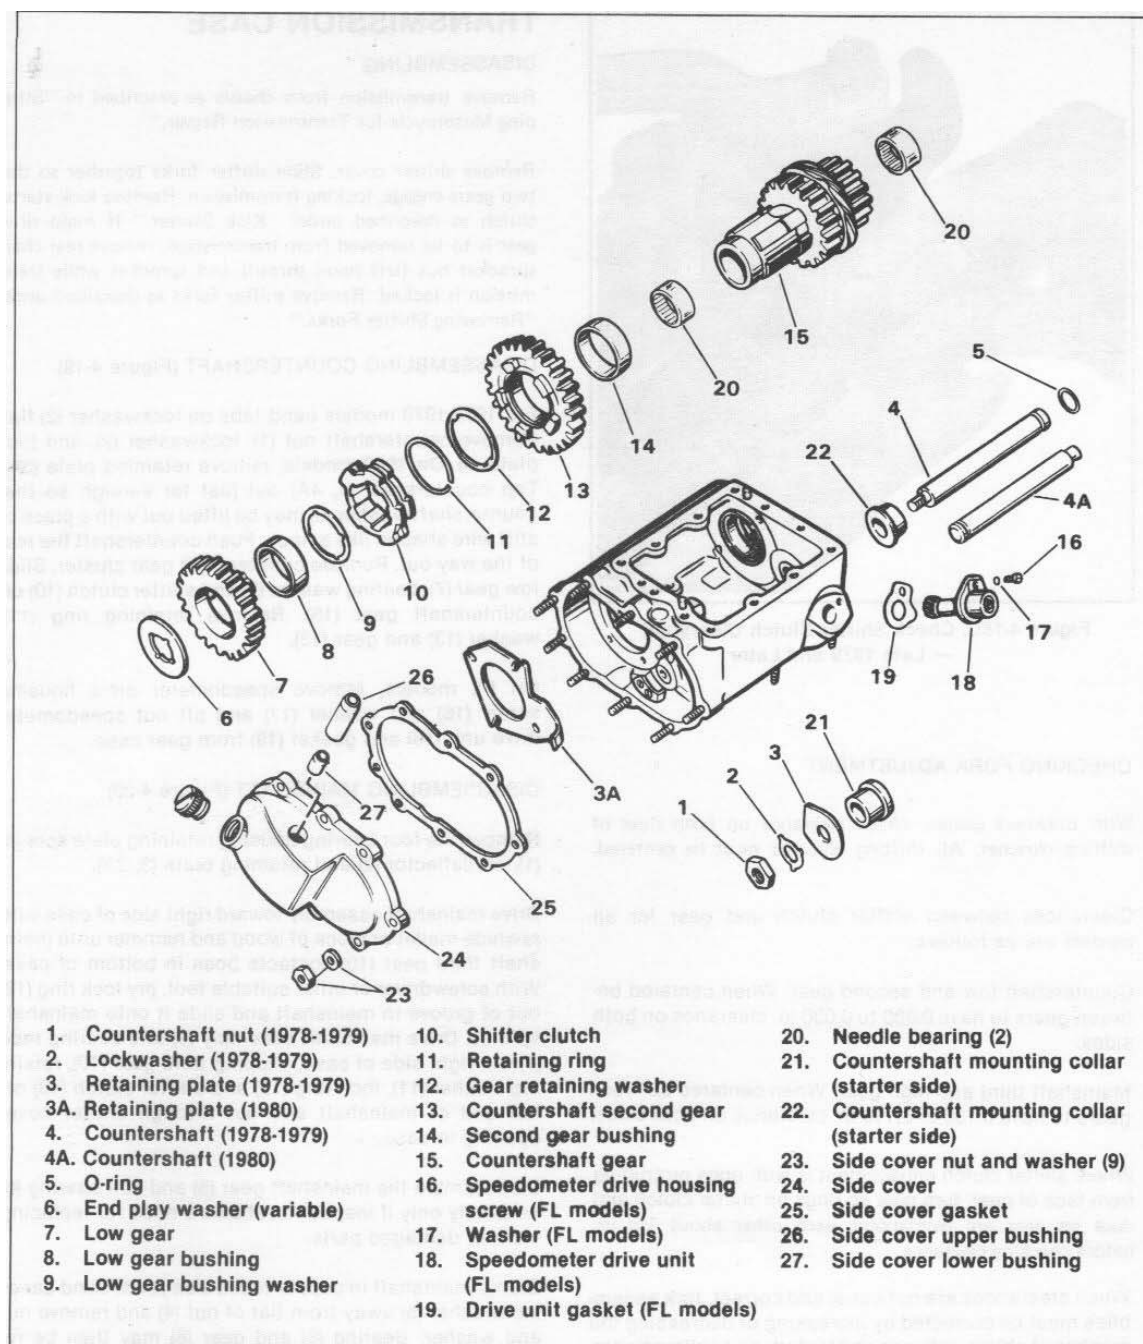
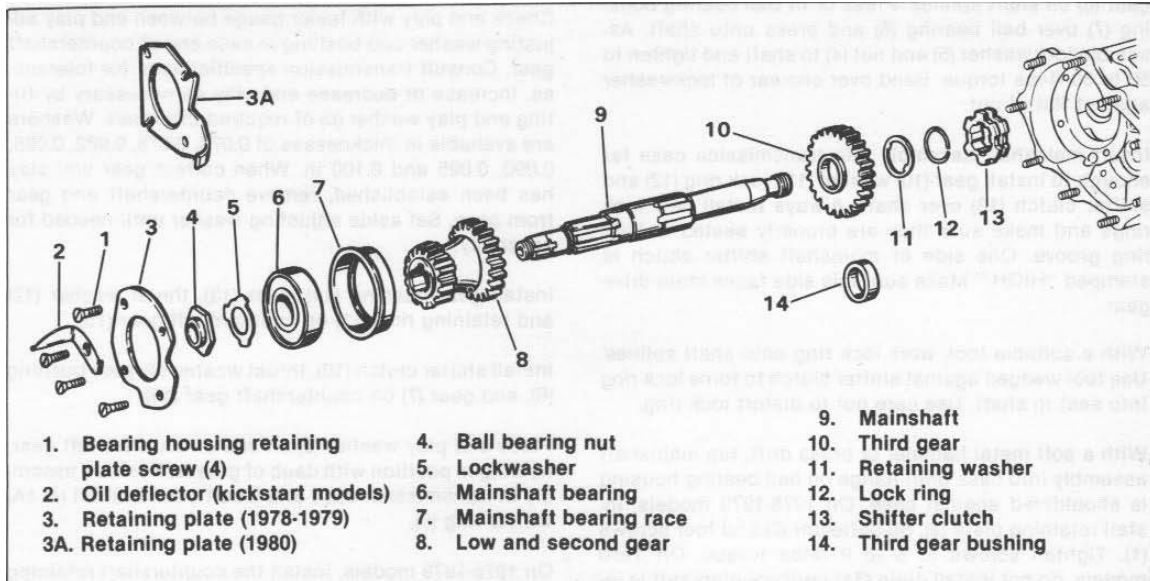
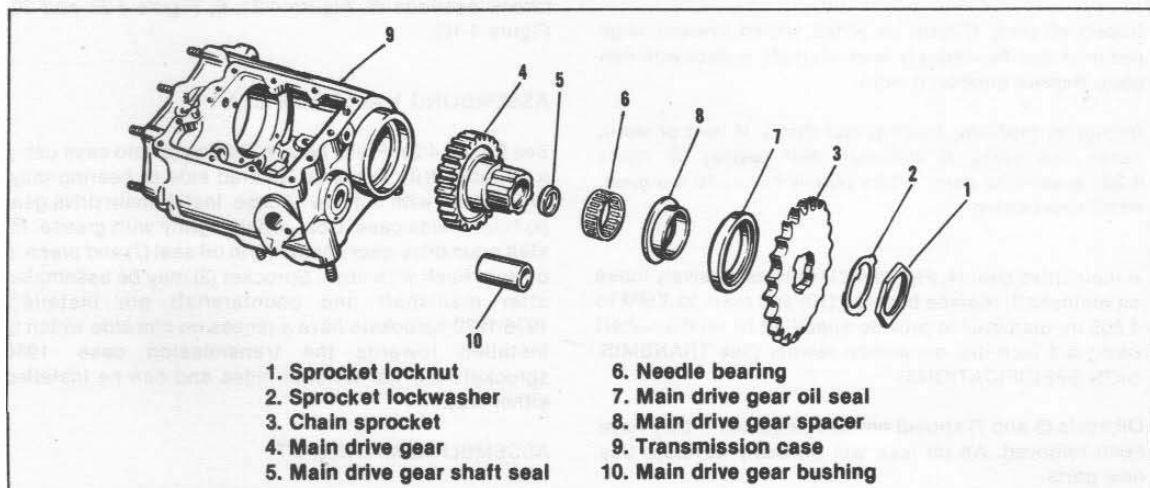

Figure 4-19. Countershaft and Case Assembly — Exploded View
Figure 4-20. Mainshaft Assembly — Exploded View
Figure 4-21. Main Drive Gear — Exploded View
DISASSEMBLING COUNTERSHAFT (Figure 4-19)
DISASSEMBLING MAINSHAFT (Figure 4-20)
DISASSEMBLING MAIN DRIVE GEAR (Figure 4-21)
Inspect all bushings, bearings and shafts. If bent or worn, install new parts. If mainshaft ball bearing (6, figure 4-20) is worn to point where play is obviously too great, install new bearing.
If main drive gear (4, Figure 4-21) fit is excessively loose on mainshaft, replace bushing (10) and ream to 1.002 to 1.003 in. diameter to provide specified fit on mainshaft using a 1 inch dia. expansion reamer (See TRANSMISSION SPECIFICATIONS).
Carefully check shifter clutches (10, Figure 4-19 and 13, Figure 4-20) and engaging dogs on gears. If they are rounded or battered appearing, they must be replaced.
Check bearings (6, Figure 4-21, 6, Figure 4-20 and 20, Figure 4-19).
See Figure 4-21. Press needle bearing (6) into case using a suitable drift. Press on lettered side of bearing only. Press flush with outside of case. Install main drive gear (4) from inside case. Coat rollers lightly with grease. Install main drive gear spacer (8) in oil seal (7) and press in oil seal flush with case. Sprocket (3) may be assembled after mainshaft and countershaft are installed. 1978-1979 sprockets have a recess on one side which is installed towards the transmission case. 1980 sprockets are flat on both sides and can be installed either way.
See Figure 4-20. Assemble parts 4 through 8 to mainshaft before installing mainshaft in gear case. Position
ASSEMBLING COUNTERSHAFT (Figure 4-19)
On 1978-1979 models, install the countershaft retaining plate (3), lockwasher (2) and nut (1). The flat side of the retaining plate should fit against the mainshaft bearing retaining plate (3, Figure 4-20). Tighten the nut to 55-60 ft-lbs torque and bend one ear of lockwasher against nut flat.